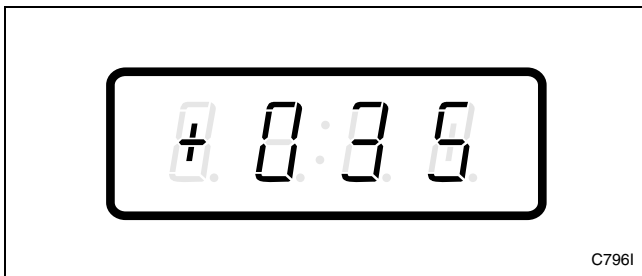

Figure 136
3. Press the DELICATES (+) or the COLD (-) keypad to scroll through the programmable options until “+035” appears in the VFD. Refer to *Figure 136*.